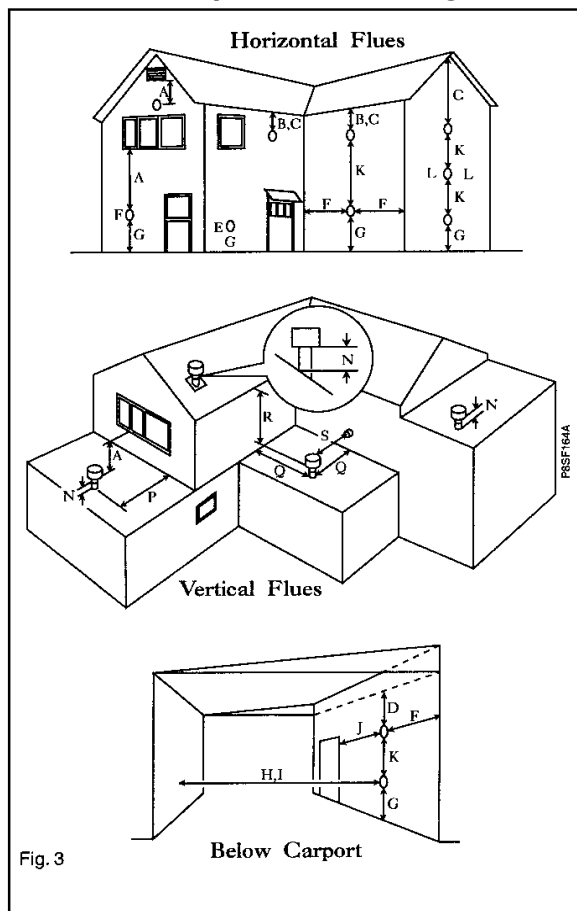

Fig. 3
1.3 Flue Terminal and Ducting (Fig: 3 - a, b & c)
90° In-line elbow kits (Part No. 31-19034) and **135° In-line Bend** kits (Part No. 31-19035) are also available for more flexible siting. Horizontal flues can be set at 45° angles to the combination boiler, through 360°, to the miniature terminal on the outside of the building. The siting positions for horizontal flue terminals are shown in Figs. 3 - a) & b).
135° Off-set kits are available for both types (Part No.31-19035 concentric) and (Part No.31-19039 twin tube). The siting of the flue terminal through a roof is shown in Fig 3. - c). Only the above flue systems should be used with Puma Flowsure+ storage combination boilers.